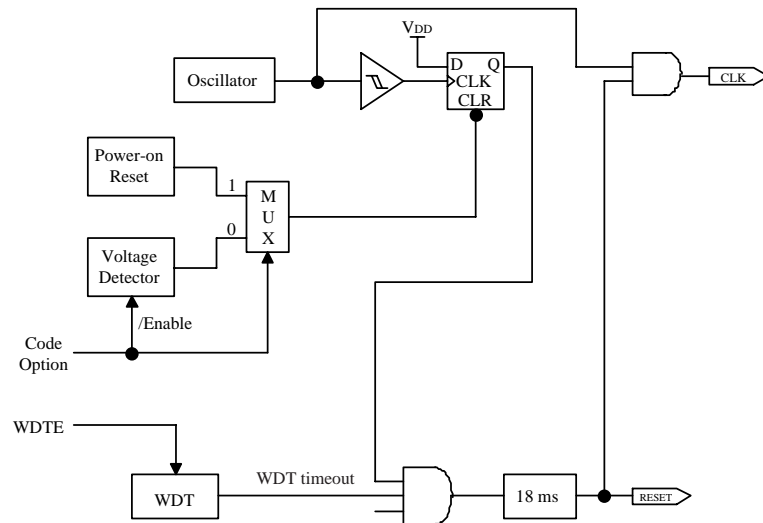

Fig. 12 Block diagram of Reset of controller
If Voltage detector is disabled, Power on reset is selected in Case (1). Refer to Fig. 12.